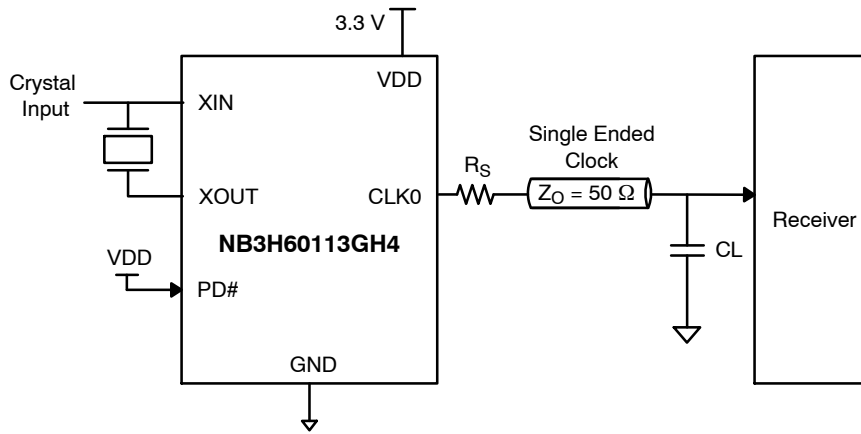

Figure 5. Typical Termination for Single-Ended Device Load
8. Measurement taken from single ended clock terminated with test load capacitance of 5 pF and 15 pF. See Figures 5, 6 and 7.